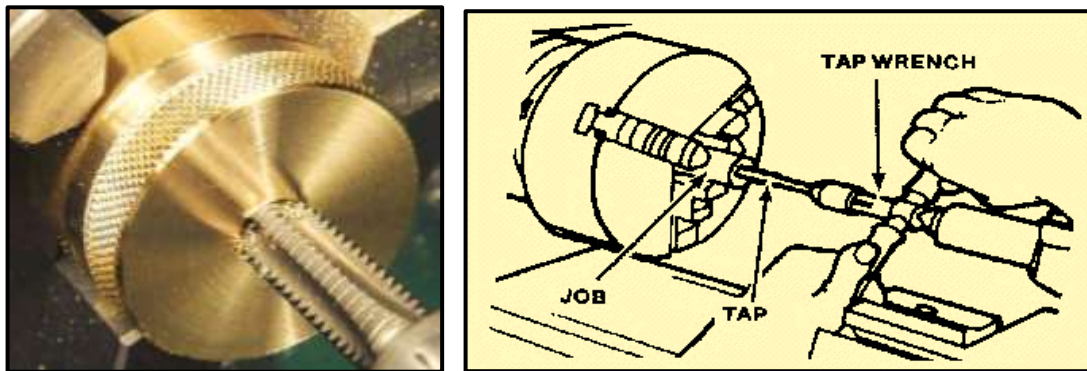

Figure 7-71: Tapping on a lathe by power and tapping on a lathe by hand.
**Hand Die Threading on the Lathe:** Die threading on a lathe is very similar to tapping on a lathe, except that the die is aligned perpendicular to the work axis by pressure exerted against the back surface of the die. This pressure can be exerted by means of a drill pad, by using the tailstock spindle, or by using the head of the drill chuck for small dies. Die threading can be done using power or by hand, using the same procedures as tapping. (Figure 7-71).